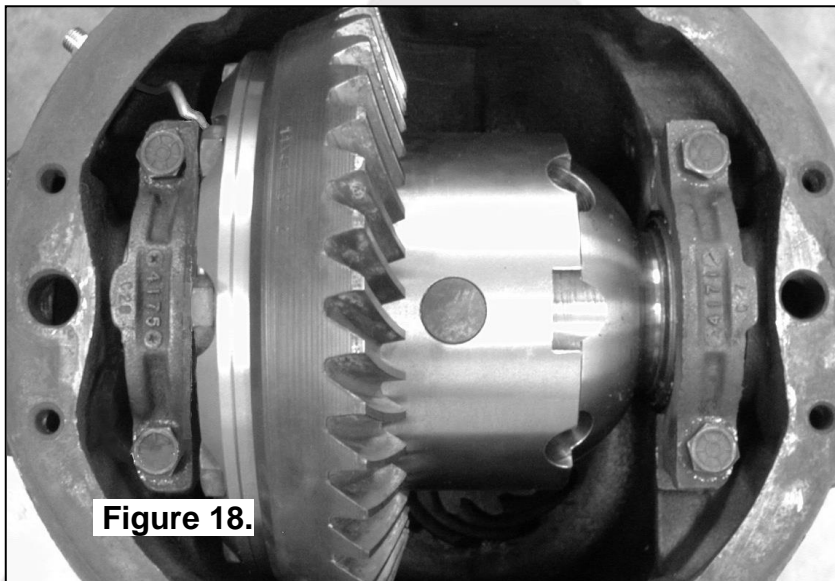

Figure 18.
- Without using sharp, jagged tools such as pliers (usually your hands are the best tool for this), gently bend the seal housing tube so that it lead towards the bulkhead port as shown in figure 18.